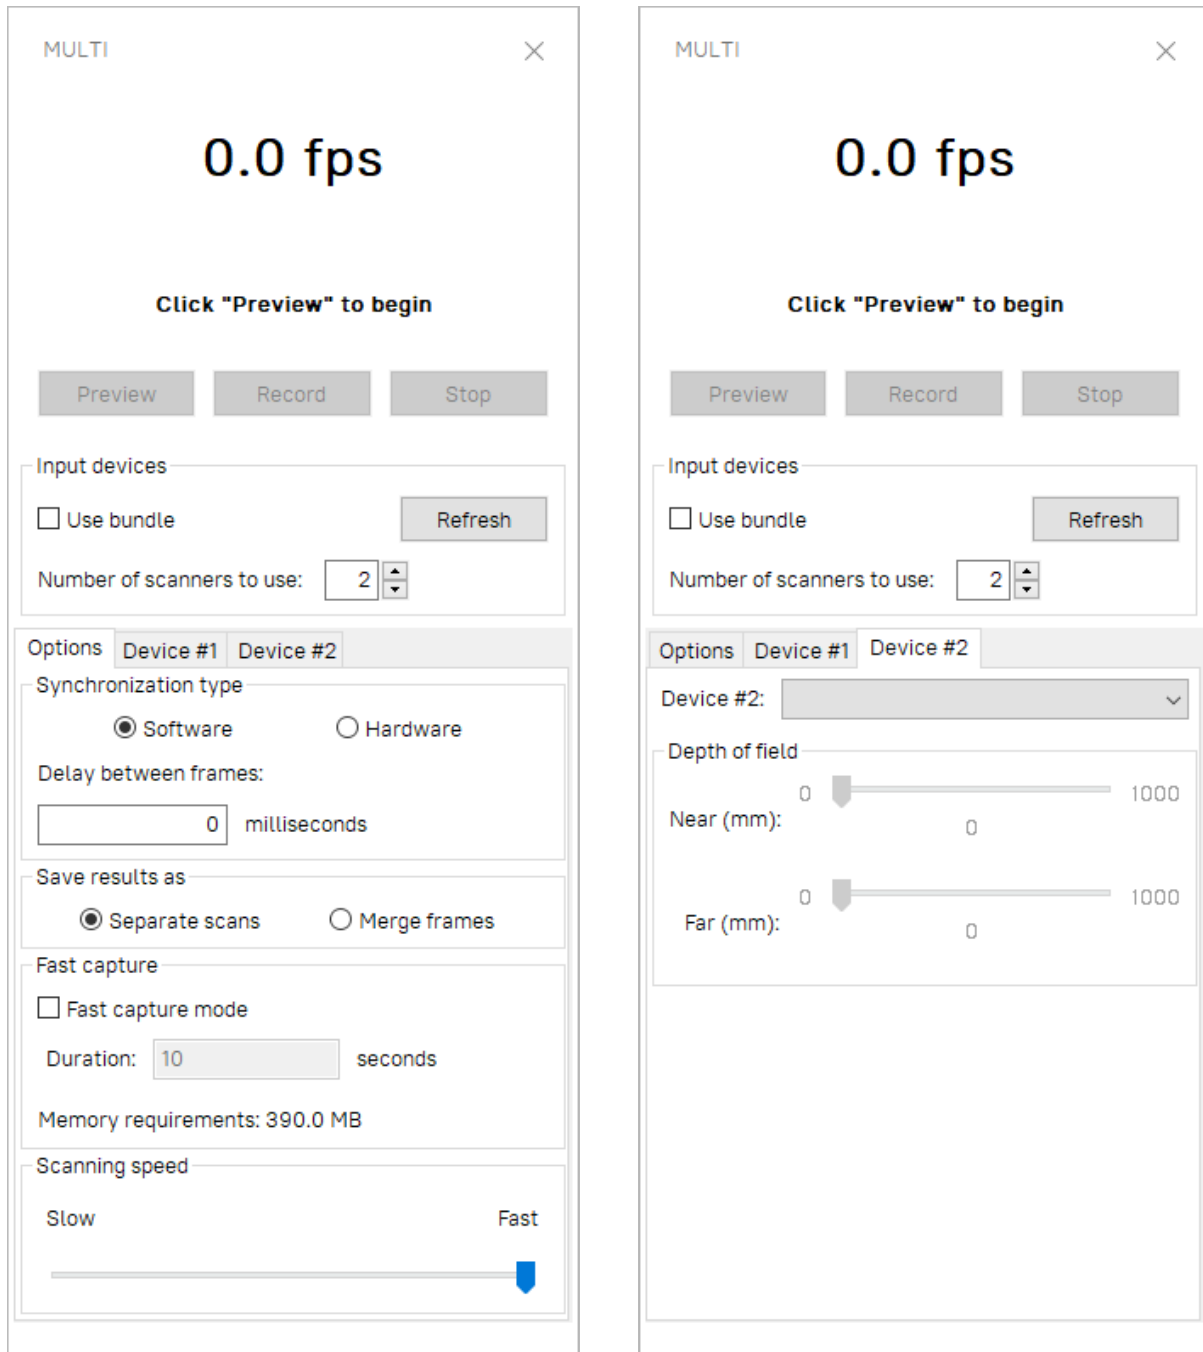

Figure 131: Multicapture panel: *Options* tab on left, *Device* tab on right.
1. Select *File* → *Multicapture (bundle)*. The panel will open (see Figure 131).
Sometimes, limiting the cameras' field of view is necessary (e.g., to cut off extraneous distant objects). Two sliders in the *Depth of field* area set the near and far scanning boundaries. The application sets work-area boundaries for each device independently in the device tabs (see Figure 131, right). By default, the minimum and maximum boundary values for the corresponding device type are set to the recommended range; we encourage